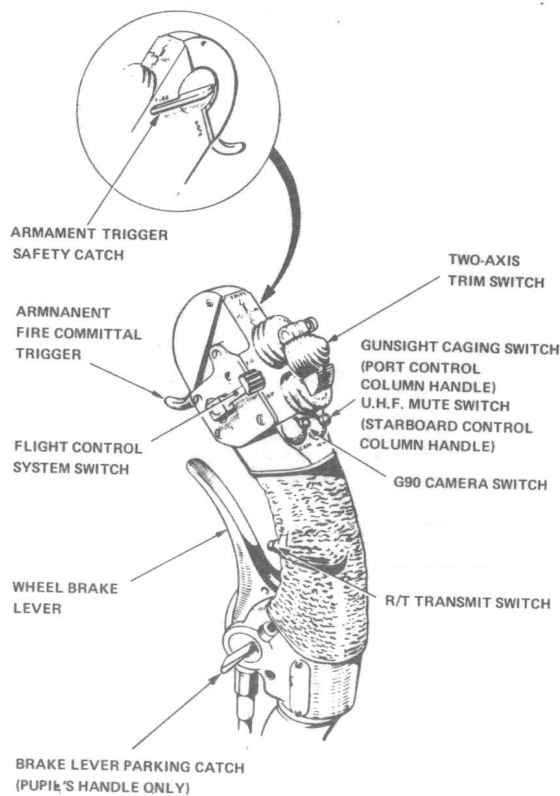

Fig.2. Control handle
Control handles (port, fig.2)
9. Rudder trim is controlled by two 2-way switches marked RUDDER TRIM mounted above the port and starboard consoles. Aileron and tail-plane trim is effected by dual 4-way switches fitted on both control handles (*fig.2*). The switches are moved fore-and-aft for tail-plane trim and laterally for aileron trim (*Sect.6, Chap.3*).